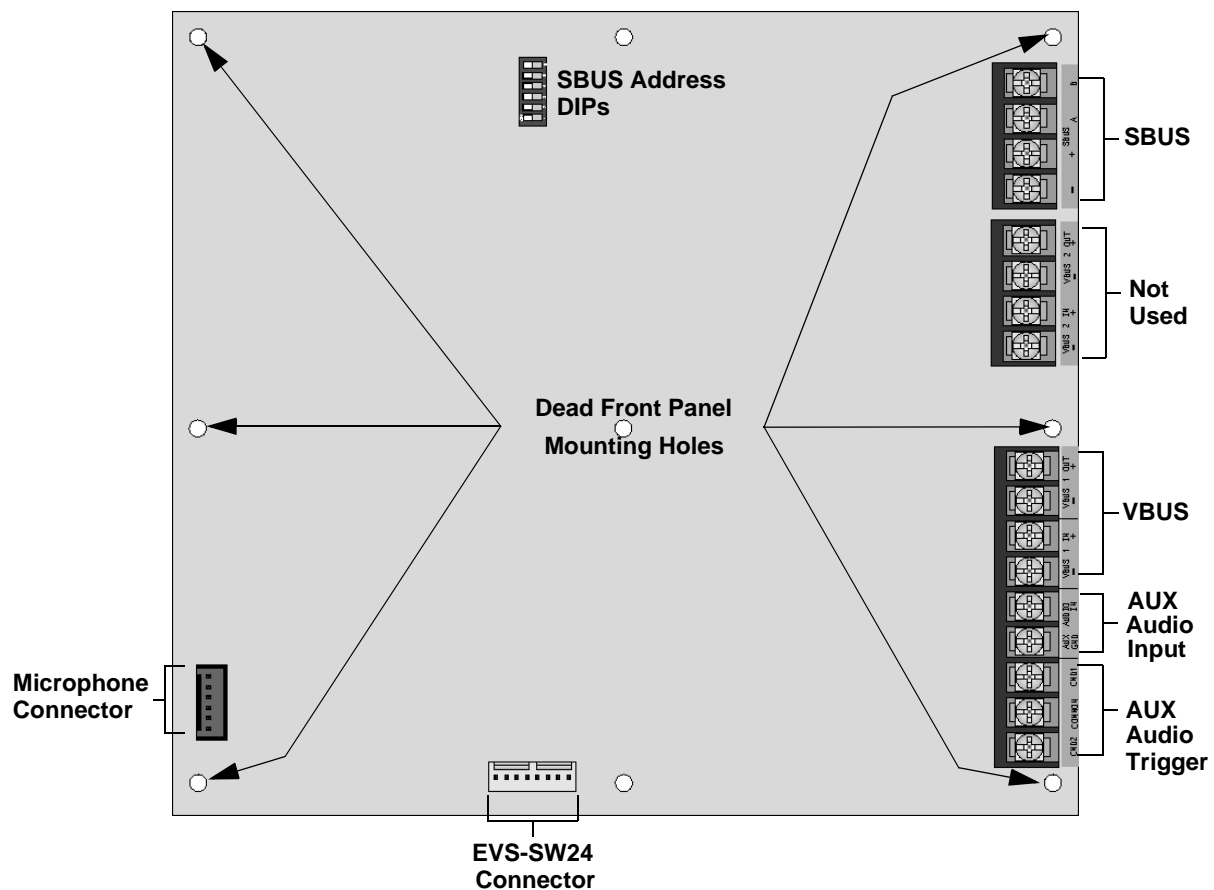

Figure 4-49 Back View of EVS-RVM
The following steps explain how to connect the batteries (refer to Figure 4-49):
3. Disconnect any devices connected to the VBUS. See Figure 4-49.